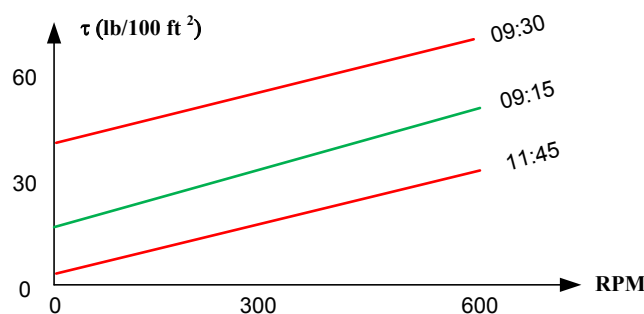

Figure 1-8a: The rheology of the mud at 3 time points
- b) Rheology monitoring. First we plot the evolution of the rheology vs. time, as shown in Figure 1-8a.